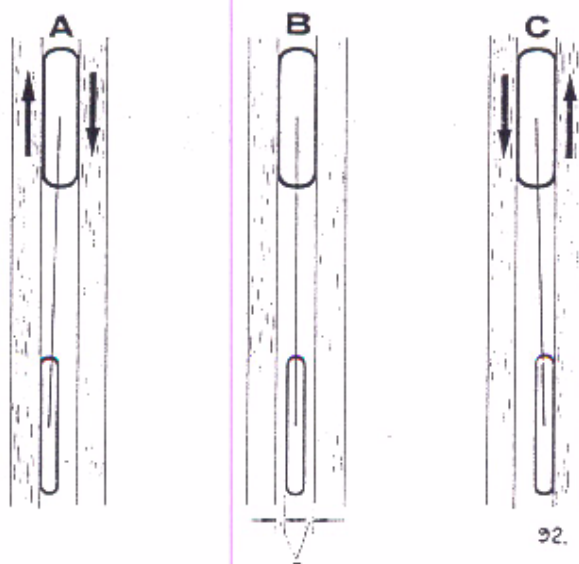

Fig. F10. Checking alignment
If the front tyre is of smaller section then it should be as drawing (B) Fig. F10.